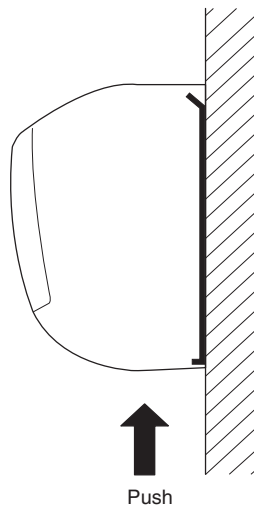

Fig. 1-86
- (3) Press the 2 △ marks on the lower part of the indoor unit and unlatch the tabs. Then lift the indoor unit and unmount. (Fig. 1-86)